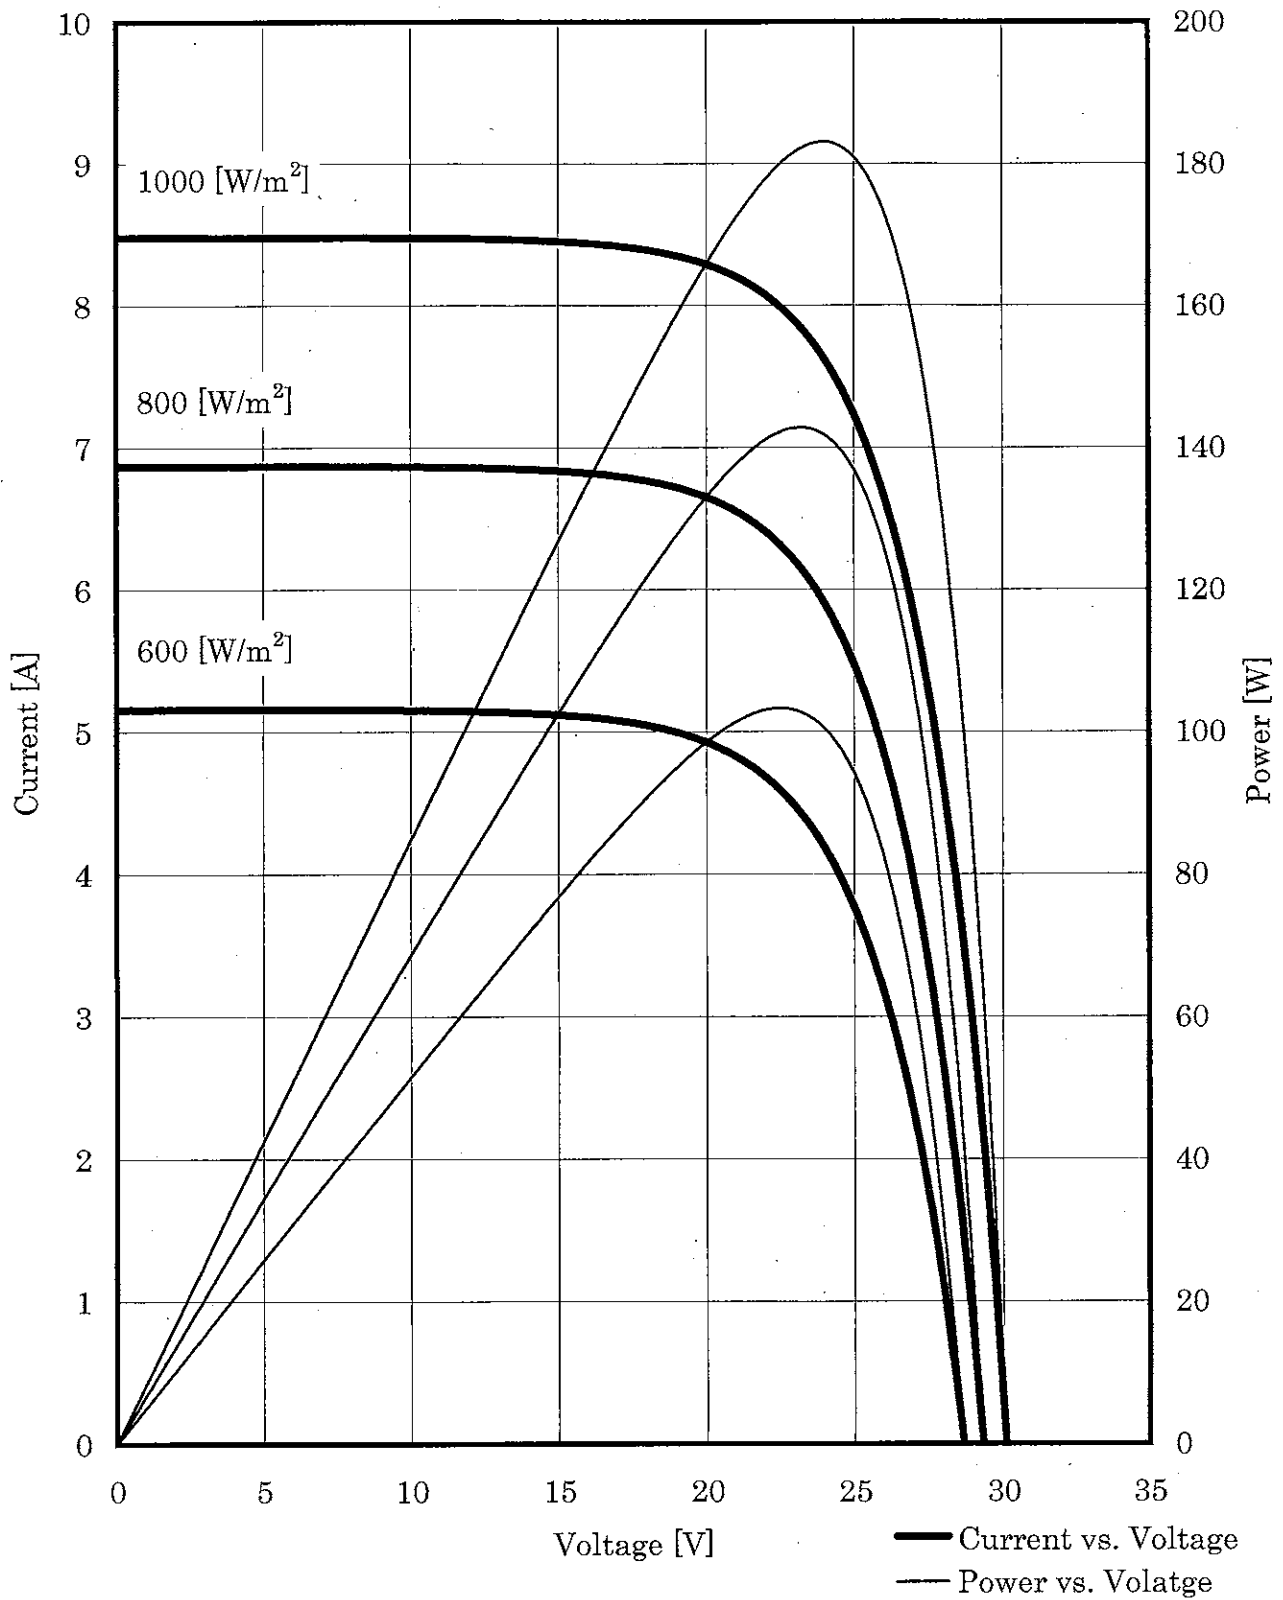

Fig. I -2 Current , Power , vs. Voltage Characteristics
- (2) Fig. I -2:Characteristics regarding Current and Power versus Voltage per Irradiance